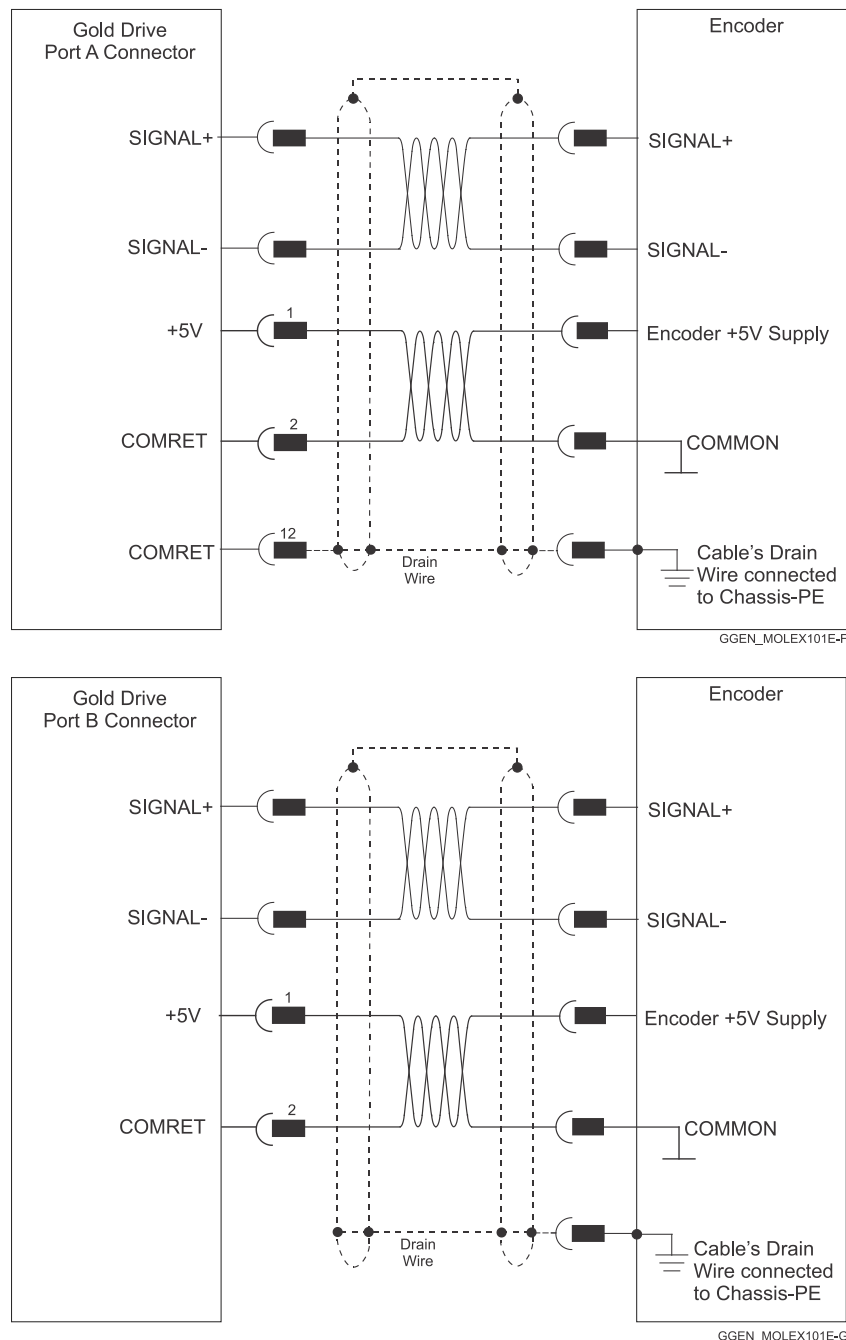

Figure 9: Feedback Port A and B Cable Assemblies
- a. At the drive, connect the feedback drain wire to one of the COMRET terminals in the Shrouded feedback connector (Figure 9).
- b. At the motor, connect the feedback cable drain wire to the GND motor chassis terminal of the feedback connector (Figure 9).